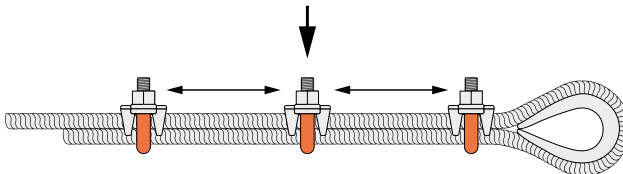

Figure 5.: Install additional clips
- If more than two clips are required, place the remaining clips evenly spaced between the first and second (see Fig. 5).